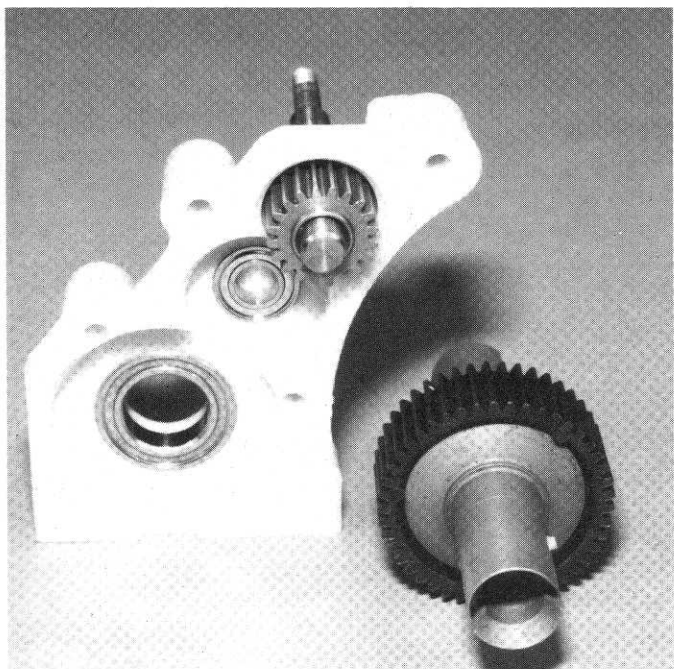

Fig. 52
□ **Figs. 52 & 53** Now take the diff assembly and slip the lower big bearing into the right hand case. Insert the right hand hub, which is the one that has the bolt HEAD in it.